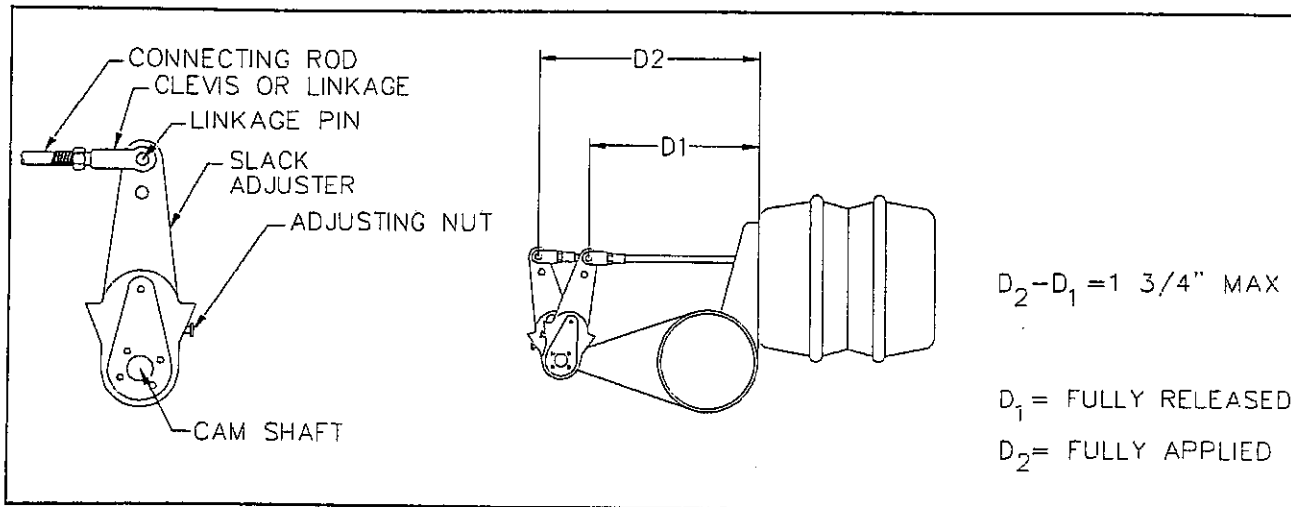

Figure 4-5 Checking Brake Adjustment
2. Measure the distance (D1) from the face of the brake air chamber to the center of the slack adjuster linkage pin (see Figure 4-5)
7. Place a 9/16" box end or socket wrench on the slack adjuster adjusting nut (see Figure 4-5), and push in on the locking sleeve.
connecting rod by removing the clevis pin (See **Figure 4-5**).
4. Remount the brake chamber on the axle brackets and reconnect the air service hoses and the slack adjuster connecting rod (See **Figure 4-5**).